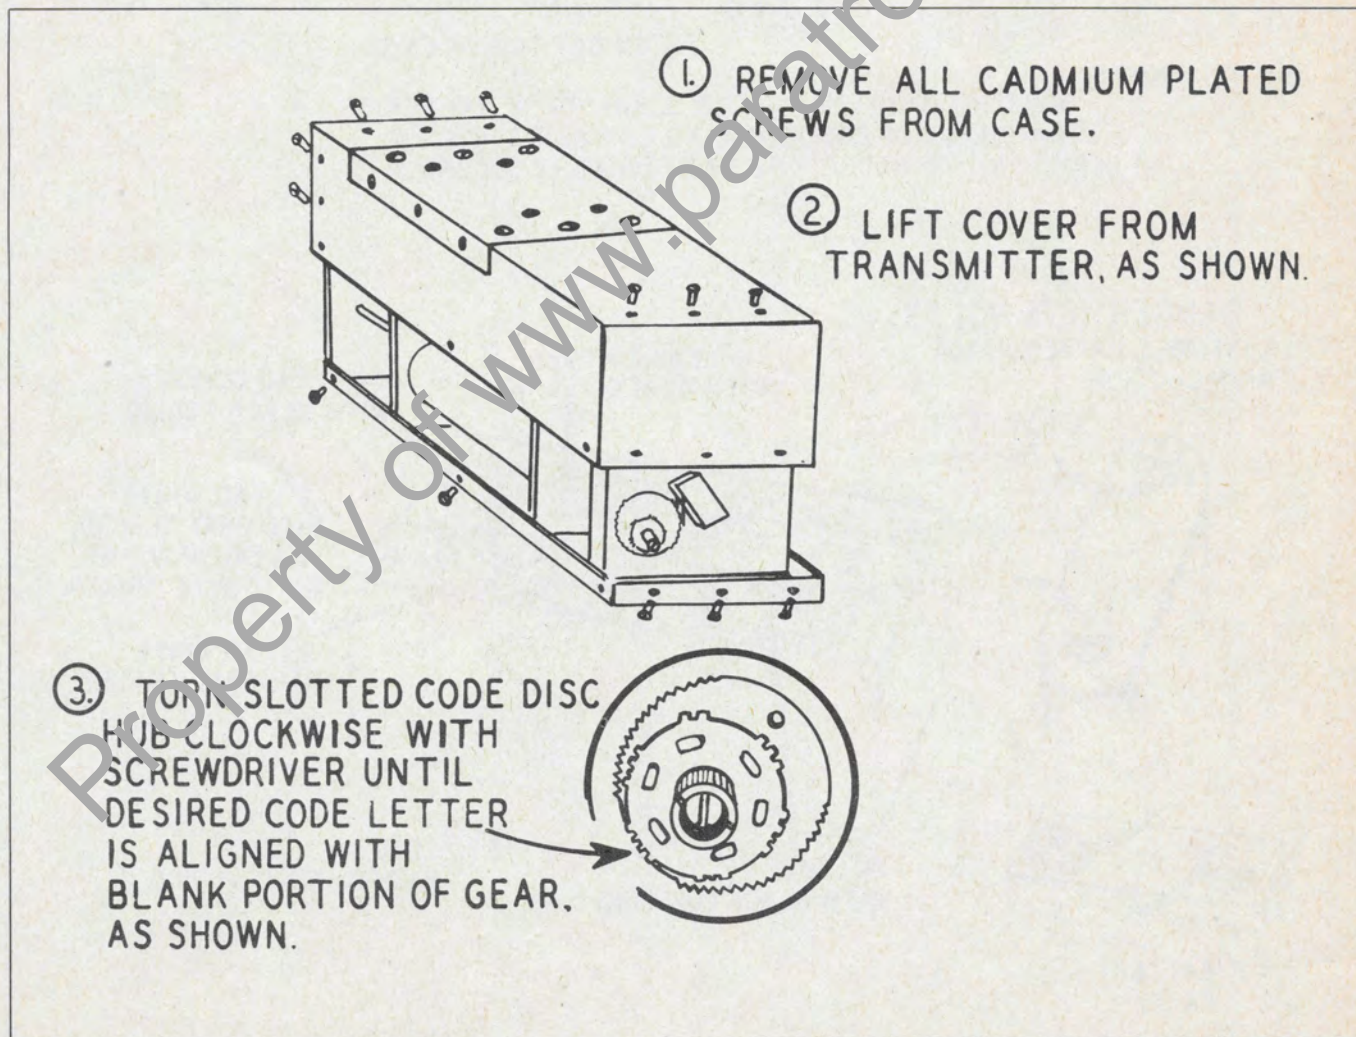

Figure 2-1. Selection of Code Letter
a. REMOVAL OF TRANSMITTER COVER. Remove transmitter from carrying bag. If it is necessary to change the code disc, remove all of the cadmium-plated screws from the transmitter and lift the cover off carefully. (See fig. 2-1.)
(1) Remove the screw in the hub of the mounted code disc.
(2) Lift disc out.
(3) Insert desired disc.
(4) Replace screw.
c. SELECTION OF CODE LETTER. — Turn code disc clockwise until the desired letter stamped on the code disc is opposite the blank portion of the gear. (See fig. 2-1.)